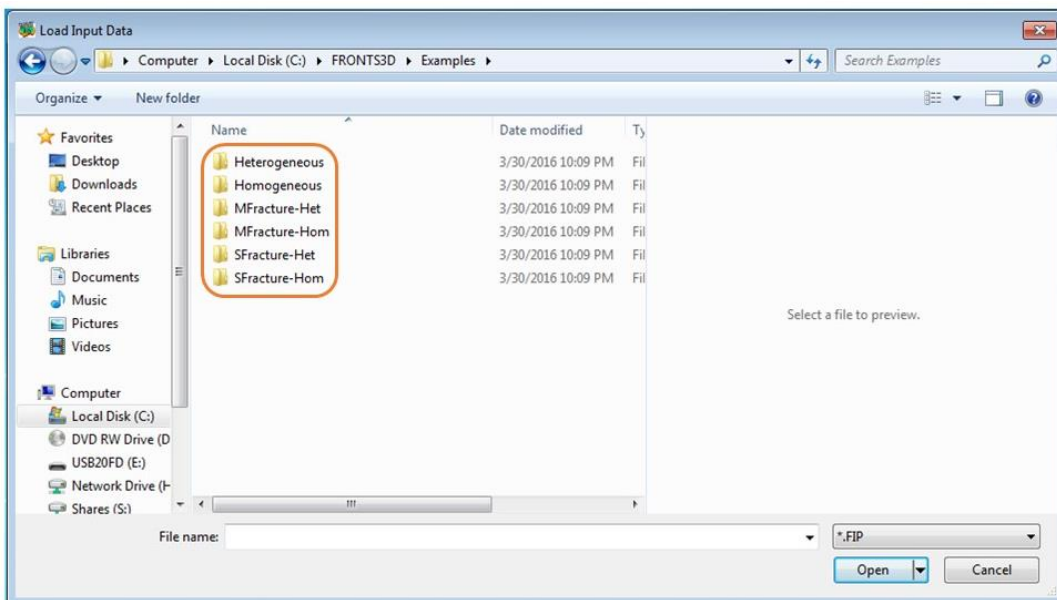

**Figure 1. Starting Screen**
2. Once the program starts, the main screen appears as below (**Figure 1**).